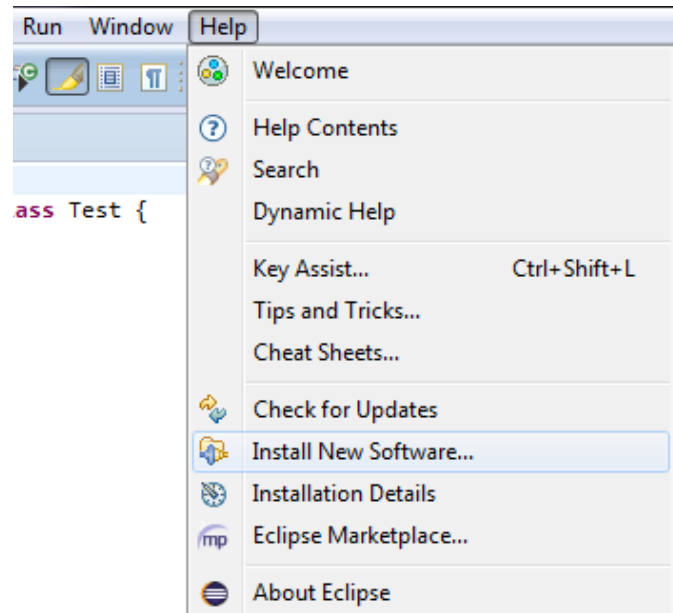

Figure 11
5. Give the repository a name such as "EV3 LeJOS". Then enter the URL `http://lejos.sourceforge.net/tools/eclipse/plugin/ev3` in the Location text box and click OK.(see Figure 11)